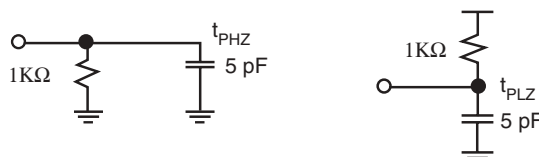

Figure 4: Loads used for t_{PXZ}
a. The following loads presented in **Figure 4** are used for t_{PXZ} :